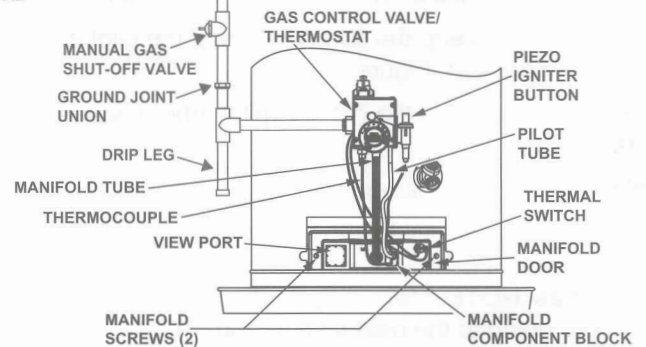

FIGURE 2
3. Lift the retainer clip straight up from the back of the manifold component block (using a flat-blade screwdriver), then remove the manifold component block from the manifold door (Figure 2). **IMPORTANT:** Be careful not to bend or alter the position of the pilot tube. It will be used as a bending template for the new pilot assembly.
5. Disconnect the thermocouple (right-hand thread), pilot tube, the igniter wire from the igniter button, the two wire leads attached to the thermal switch, and manifold tube at the gas control valve/thermostat. (Figures 2.)